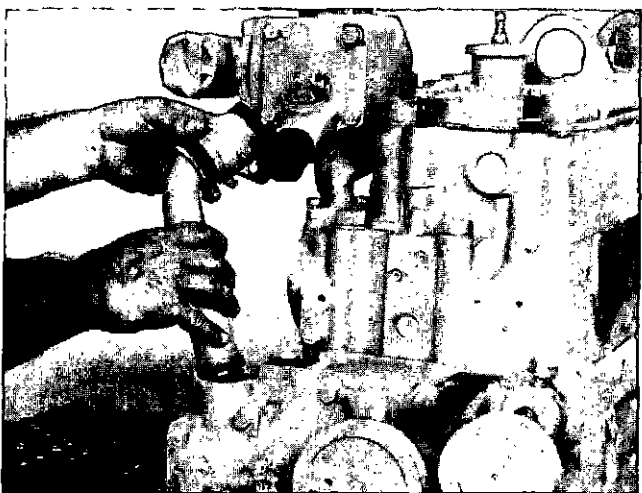

Fig. 0-30. Remove The Water Bypass Tube.
7. Remove the water bypass tube from the thermostat housing and the water pump body, Fig. 0-30. Discard the O-rings.